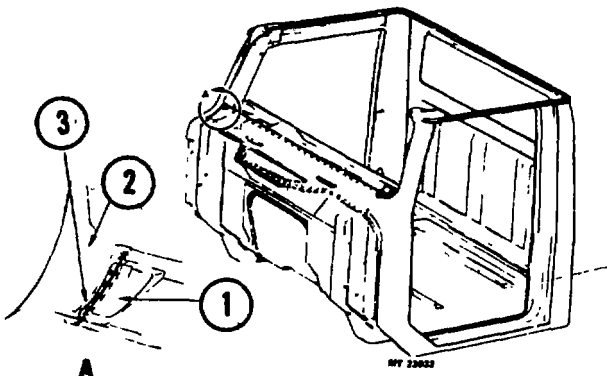

Fig. 43 Windshield Outer Panel to Cowl Inner Panel Spot Weld (Rt. Side Shown)
7. Drill out five spot welds and separate windshield side outer panel from cowl top inner panel (Fig. 43).